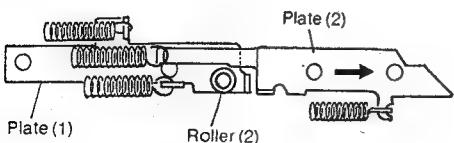

Fig. 3
3. Simultaneous with the movement of Roller (2), Plate (1) starts to move and pushes Plate (2) rightward (see Fig. 3).